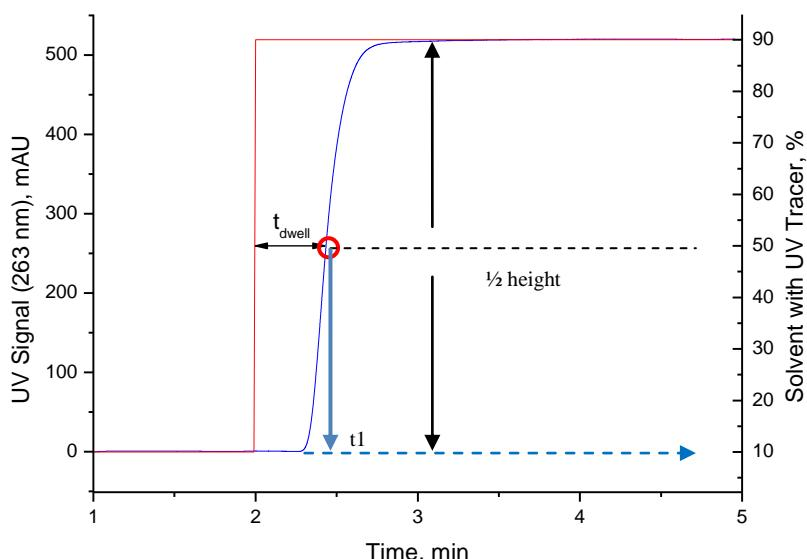

figure 1 - Example of dwell volume measurement by step boundary using 0.1% acetone as UV tracer
- a. Determine the actual elution time of acetone, **t1**, at half of UV-signal height (blue curve in figure 1).
- b. Calculate a dwell time, **t-dwell**, as a difference between the programmed (red curve in figure 1) and **t1**.  $t\text{-dwell} = t1 - 2$